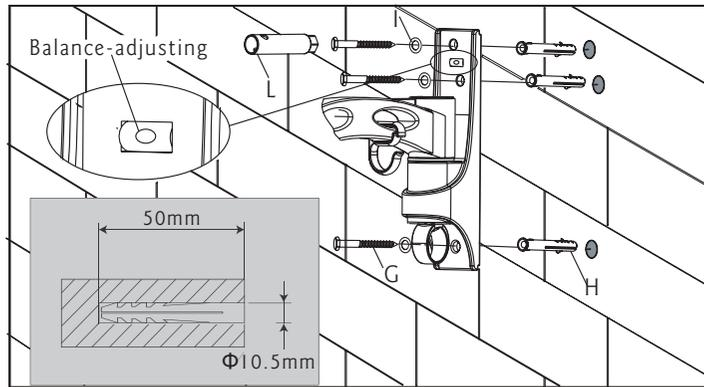

Fig 2
Put the wall mount flatly in the installing position, using it as template, lining out the hole on the wall. Use a aiguille of dia. 10.5mm to drill three 50mm deep holes, Insert the wall anchor(H) into the mounting holes, and lightly tap them flush to the wall with a hammer. Securely mount the wall plate with supplied Long bolts(G) and washers(I) by Box wrench(L). As shown in Fig2.